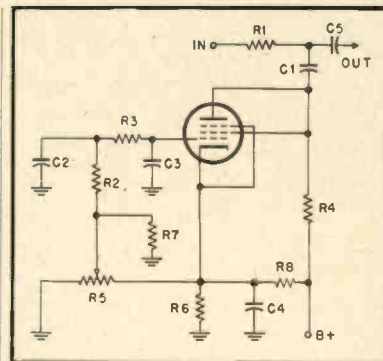

Fig. 3.
For those who care for a somewhat different type of compensation, the circuit of Fig. 3 is offered. Figure 4 shows what happens, with three curves illustrating frequency responses between maximum level (A) and minimum (B). In the earlier circuit, Fig. 2 shows that the middle and upper response remains flat and drops straight down with decreasing level. In the circuit